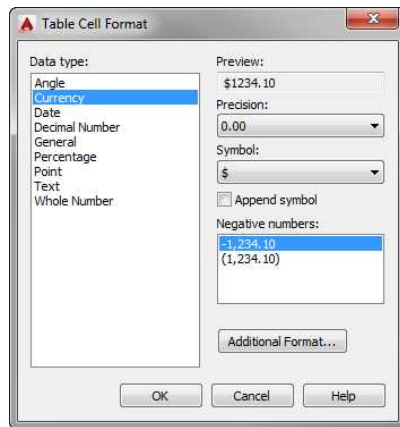

FIGURE 9.68: Formatting the table cells
5. Choose 0.00 from the Precision drop-down list (see Figure 9.68).